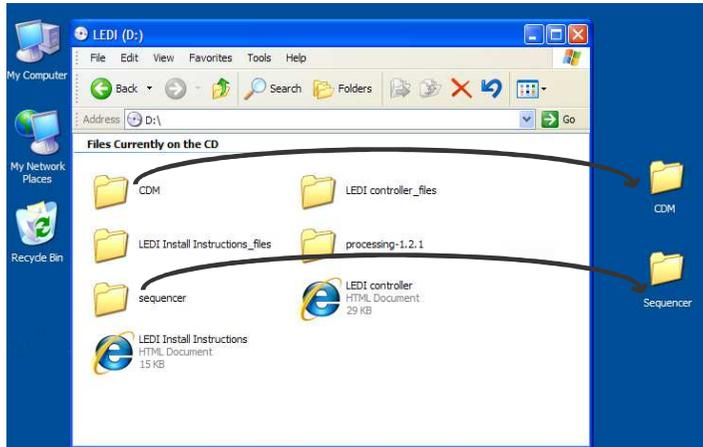

Figure 4
3. From the LEDI CD window, select the CDM and Sequencer folders and drag and drop them to the desktop (figure 4) then close the LEDI CD window